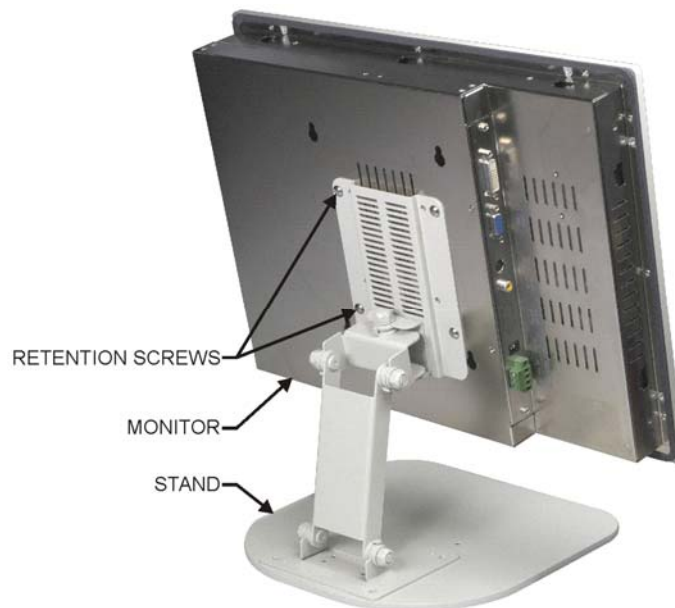

Figure 5-31: Monitor Stand Mounting
- Step 2:** Secure the monitor to the stand with the supplied retention screws (**Figure 5-31**).